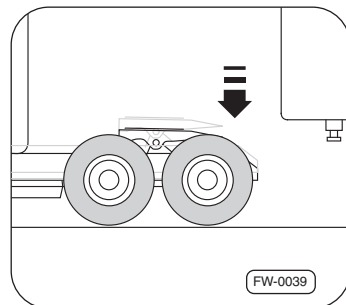

Fig. 13 · Lowering the air suspension system
6. Adjust the air suspension system on the tractor so that the fifth wheel plate is below the bolster plate ⇒Fig. 13.